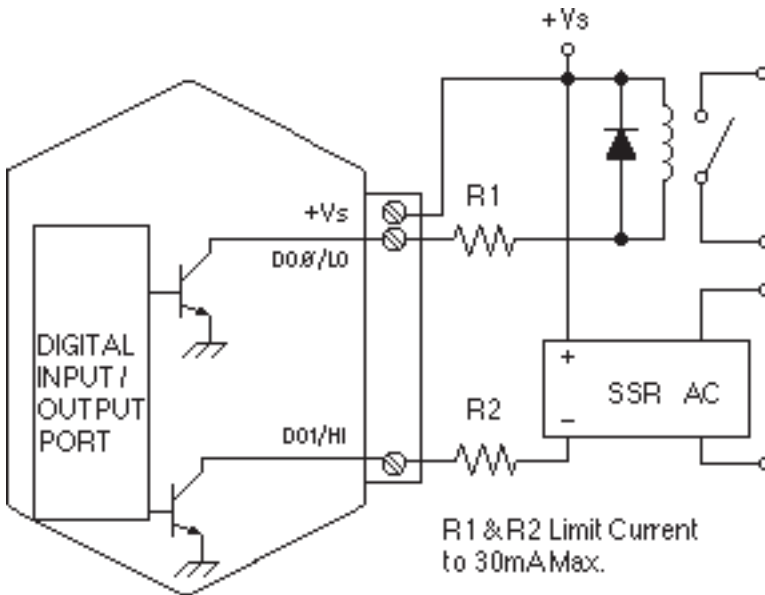

Figure 6.3 Digital Inputs
Digital inputs are used to sense switch closures and the state of digital signals. The inputs are protected to voltages up to  $\pm 30\text{V}$  and are normally pulled up to the logic "1" condition (see Figure 6.3). Digital inputs can be read by the Digital Input (DI) command. Voltage inputs less than  $1\text{ V}$  are read back as '0'. Signals greater than  $3.5\text{ V}$  are read as '1'. No other commands have any affect on the inputs.